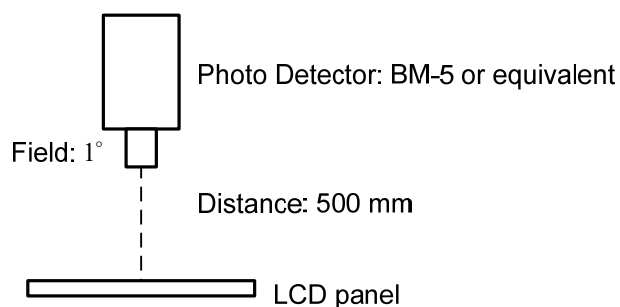

Fig. 6.1
- In the dark room less than 100lx, the equipment has been set for the measurements as shown in Fig 6.1.